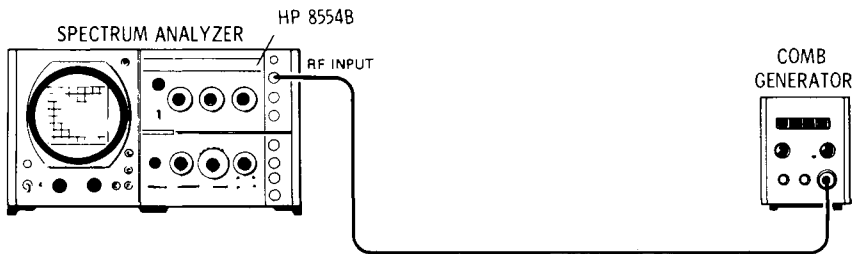

Figure 4-9. Scan Width Accuracy Tests 100 MHz/Div
- 1. Connect the test setup in Figure 4-9 and make the following control settings: